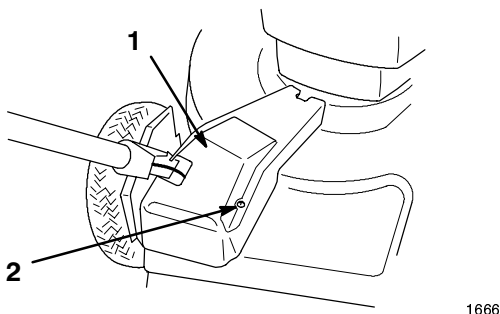

Figure 30
2. Remove the bolts that secure the belt cover to the lawn mower housing (Fig. 30).